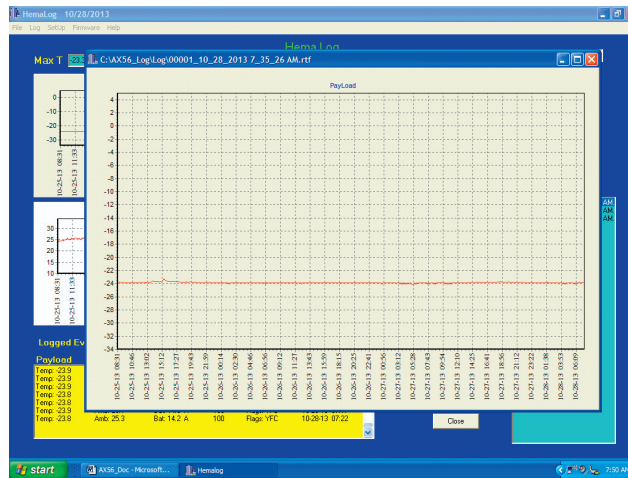

Figure 46. Example of a Payload FS Screen
- **Payload FS** screen (Figure 46) displays the temperature history of the payload.